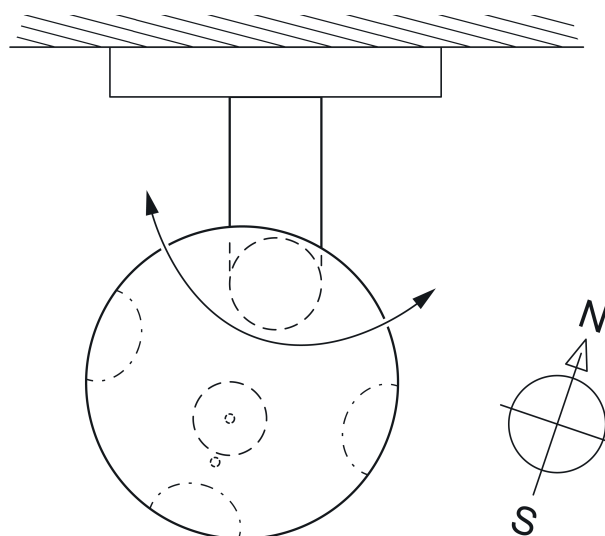

Figure 6: Orienting the weather station
- Align the sensor head in the appropriate direction or - depending on the detailed on-site circumstances - according to the alignment of the facade (figure 6).